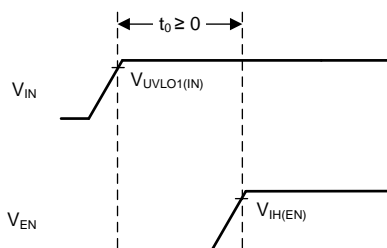

Figure 46. Sequencing Diagram
- V_{BIAS} and V_{IN} can be sequenced in any order, as long as V_{EN} is tied to V_{IN} or established after V_{IN}, as shown in Figure 46